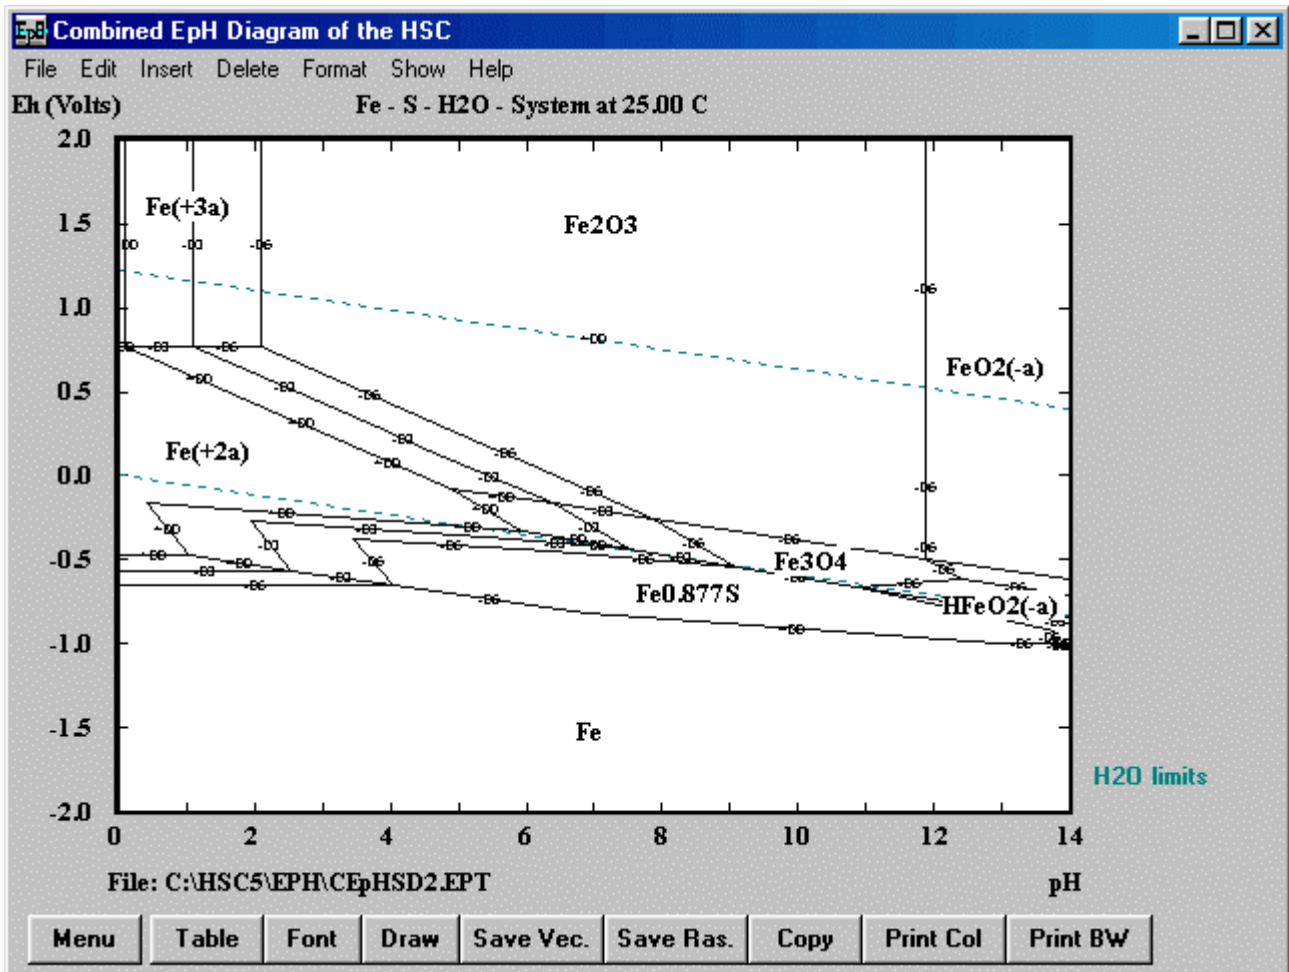

Fig. 9. Combined Eh-pH-diagram for an Fe-S-H₂O-system at 25 °C. The Fe molality values 1, 10⁻³, and 10⁻⁶ have been used as parameter.
3. Give values for one variable, for example, molality 1.00E+00 for Data Set 1, 1.00E-03 for Data Set 2 and 1.00E-06 for Data Set 3. Press **Diagram** to calculate the combined diagram, see Fig. 8 and Fig. 9.
The calculation basis and appearance of the combined diagrams is the same as for the normal Eh-pH-diagrams discussed in previous chapters. The combined diagrams are reduced to normal diagrams if only one data set is selected, see Fig. 8. However, there are some differences which will be discussed in this chapter. The combined diagram of the Fe-S-H₂O example is shown in Fig. 9.
The EpH module automatically carries out all the calculations needed to draw the diagram. The result workbook may be seen by pressing **Table** in the Diagram form, see Fig. 9. Normally you do not need to worry about these sheets at all. You may utilize this information, for example, to see the exact numerical coordinates of the lines or to identify some very small and complex stability areas, etc. The modification of this worksheet has no effect on the diagram.